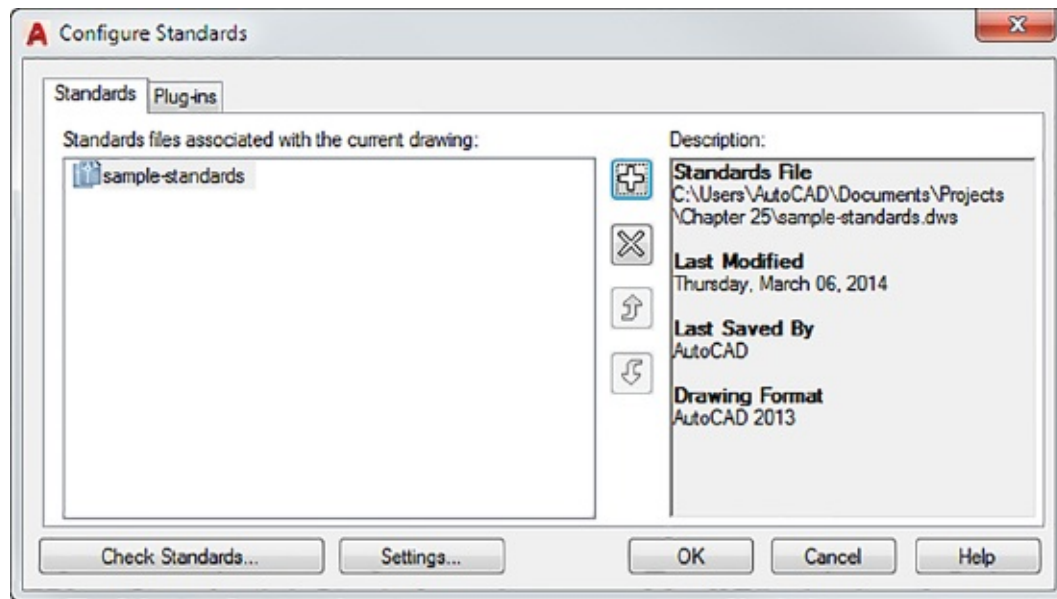

FIGURE 25.32 Associating a set of standards with a file
5. Locate and select the standards file that you want to use to check the current file and click Open. After a moment, the name of the file that you select appears in the list box (see Figure 25.32). On the right side of the dialog box you see a description of the standards file.